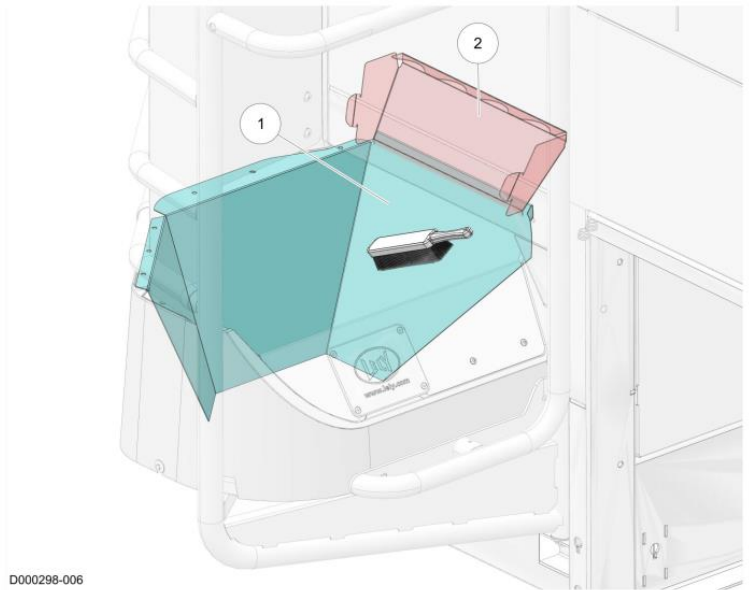

Figure 81. Clean the feed bin
8. Refer to figure 81 for the location of the feed bin and feed slide